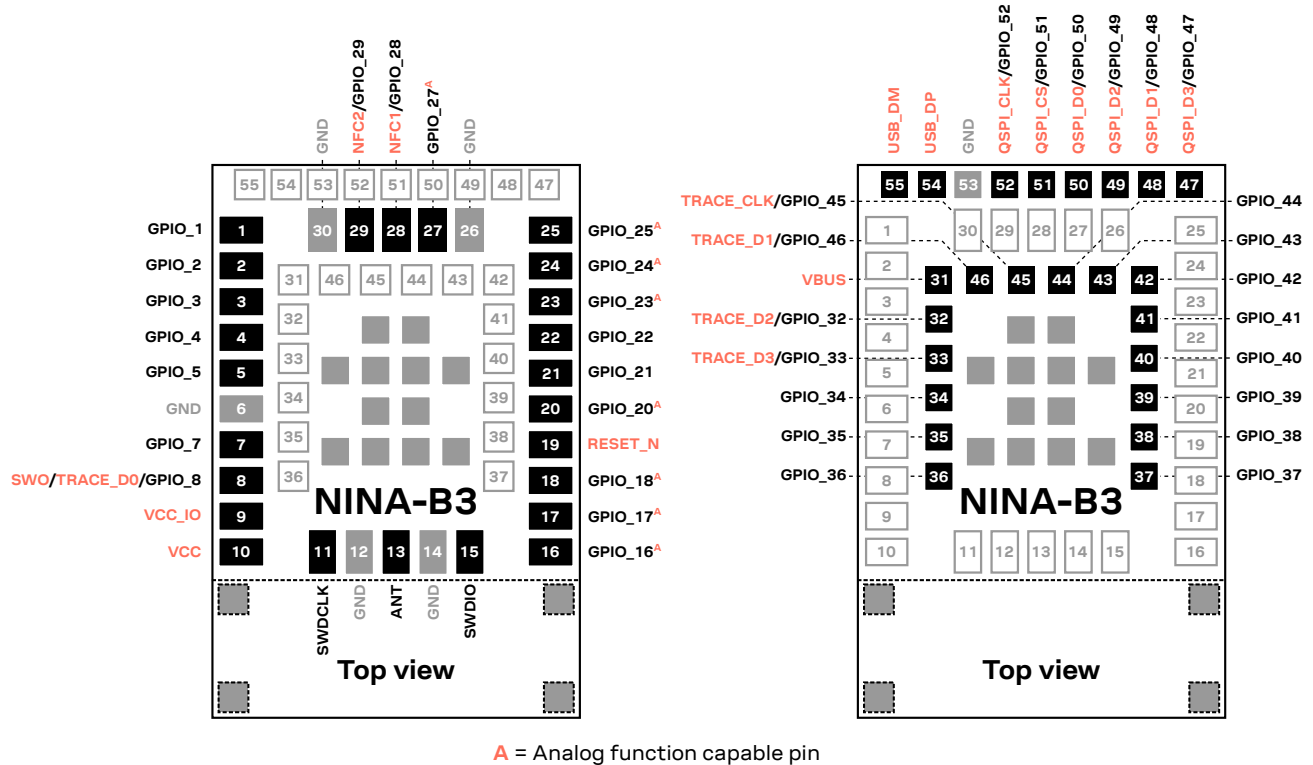

Figure 4: NINA-B30 series pin assignment (top view)
Figure 4 shows a typical pin-out assignment for NINA-B30 in an unconfigured state.
The grey pins in the center of the modules are GND pins. The outline of NINA-B301 ends at the dotted line shown in Figure 4, where the antenna area of the NINA-B302 and NINA-B306 begins. The four grey pins, shown with dotted outlines in the antenna area, are GND pins that are only present on NINA-B306.
- Most of the digital or analog functions described in this data sheet may be freely assigned to any GPIO pin. Analog functions are limited to analog capable pins. In Figure 4, the signals highlighted in red are locked to a specific pin and are not freely assignable.